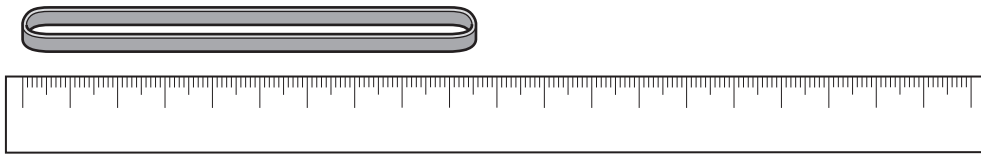

Fig. 4.1
- (a) (i) Measure the length l of your elastic band to the nearest millimetre, by pushing your band together and measuring against a ruler as shown in Fig. 4.1.